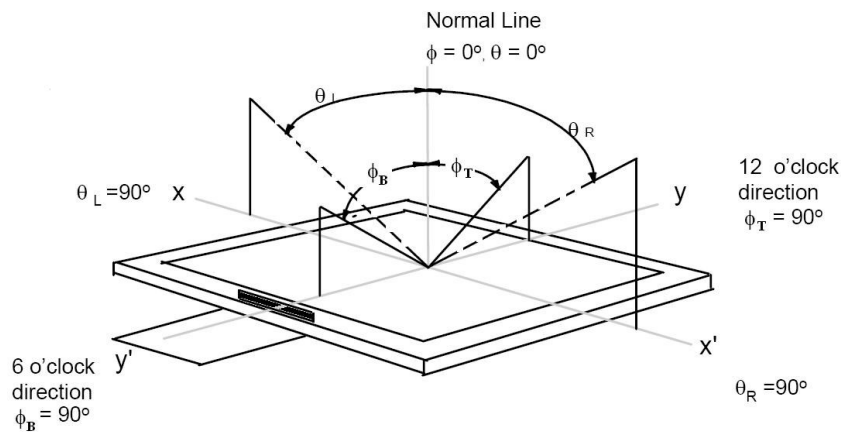

Figure 9 - Viewing Angle
1. Definition of viewing angle: Refer to Figure 9 below, indicated by θ and Φ .